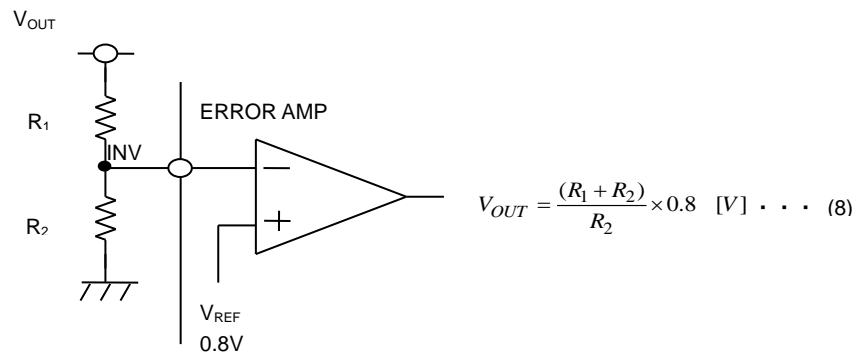

Figure 30. Setting of Feedback Resistance
Output voltage should be obtained by referring to Equation (8) of Figure 30.